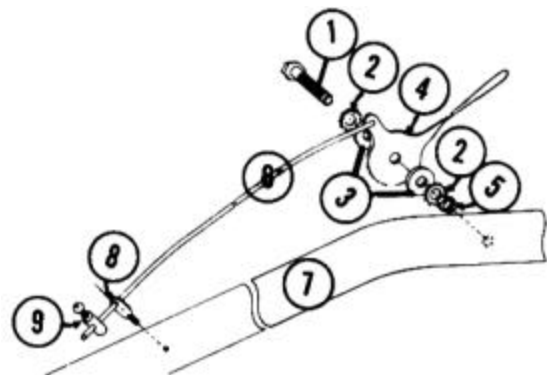

Figure 2
8. Replace Throttle Wire on new Governor Throttle Lever. Insert Wire through L-743 Throttle Stud, then assemble Throttle Assembly to Tractor Handle. See Figure 2.
16. Slip the Governor Control Stop (9 in Figure 2) on the Throttle Wire.
21. At this point, the Governor Spring will be extended. Now, move the small Governor Control Stop that has been threaded on the Throttle Wire in step 16, until it is firmly against the Throttle Stud (8 in Figure 2). Tighten the small Screw until it firmly and securely holds the Throttle Wire.